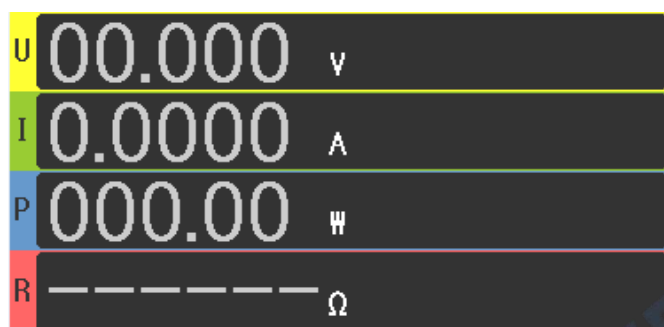

Figure 4-3
**U,I,P,R: as shown in Figure 4-3, display voltage, current, power and resistance